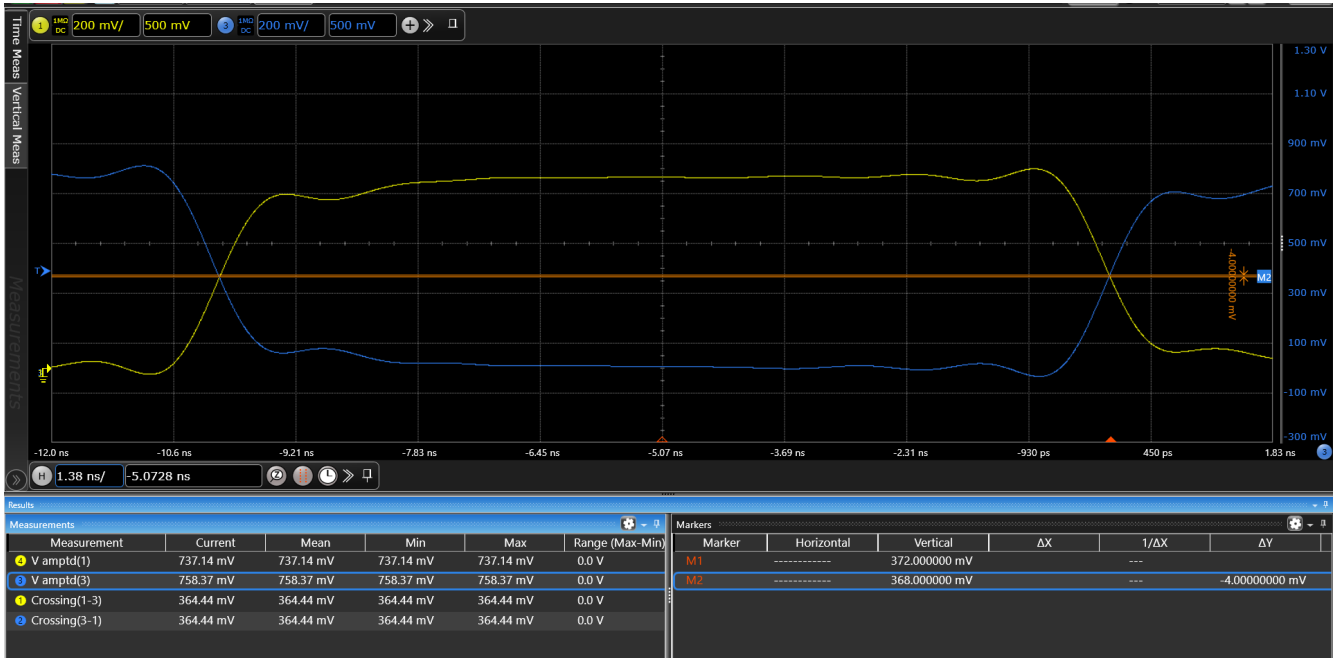

Figure 12. Vcross – HCSL Internal Termination, Boost = 0% on OUT0 (yellow trace) and nOUT0 (blue trace)
- Figure 12. Vcross – HCSL Internal Termination, Boost = 0% on OUT0 (yellow trace) and nOUT0 (blue trace)7